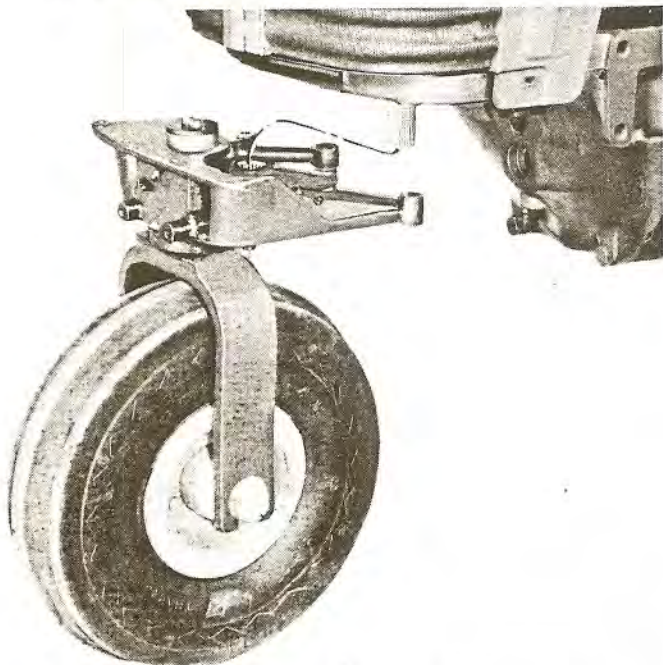

Fig. 9 - Removing Single Front Wheel Axle Assembly
2. Carefully raise front end of tractor, while at the same time, withdrawing the wheel fork from below. See Fig. 9.